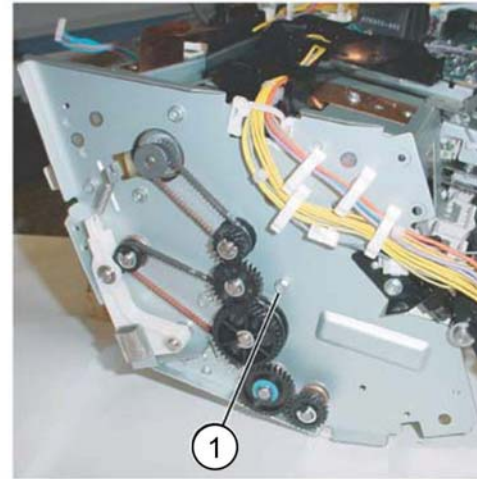

Figure 6 Rear screw removal
12. Remove the rear screw (1), Figure 6.